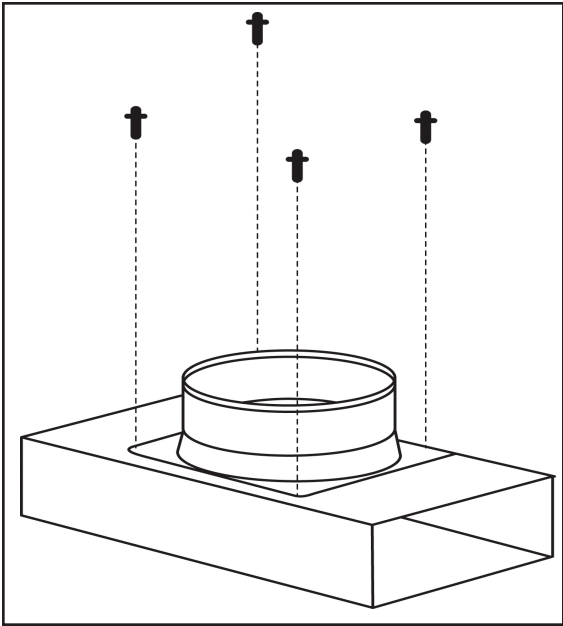
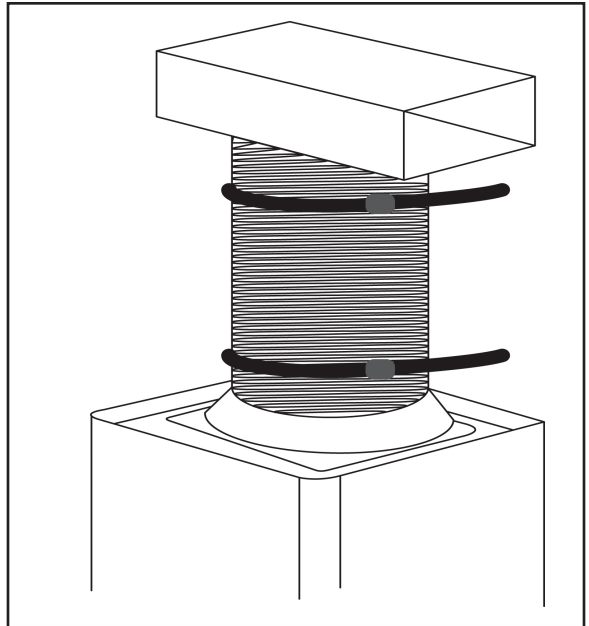

Figure 1
Figure 2
- a) Fix the damper(B) on the recirculation box (D) using 4 of the screws (A) provided. See Figure 1.
- a) Connect the extension tube (E) to the damper on top of the range hood using one of the clamp provided (C) to tighten the tube around the recirculation box (D).
- b) Connect the extension tube (E) to the recirculation box (D) installed in Step 1 using the other clamp (C). See Figure 2.